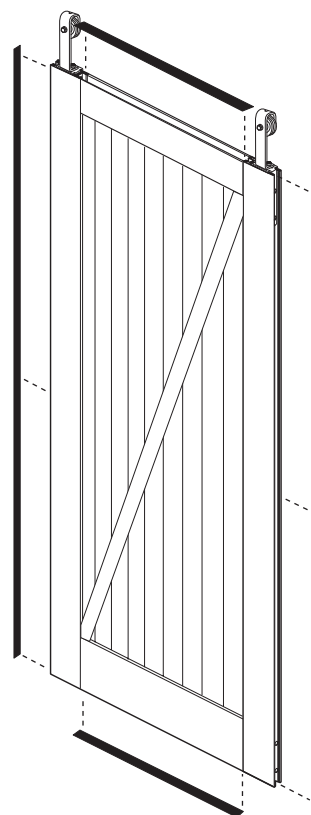

Figure 11
Snap the 2 side finishing strips (M) into place. Snap the top and bottom then the strips (N) into place. See Figure 11.